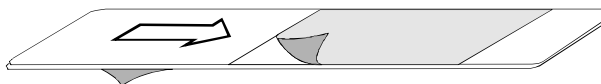

Figure 4-4: Printer cleaning card
- 2 Peel the protective paper backing from both sides of the printer cleaning card (see Figure 4-4).